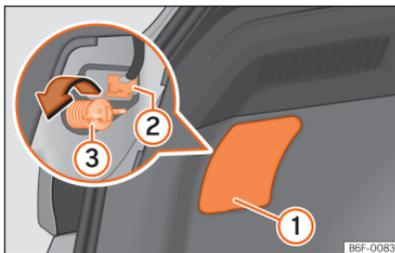
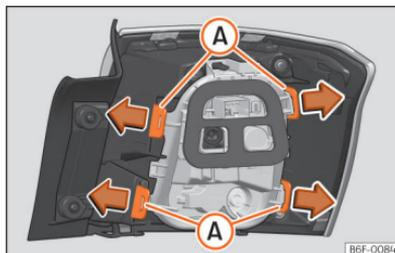

Fig. 171 Boot: access to the bolt securing the tail light unit.
Fig. 172 Retaining tabs on reverse side of tail light.
- Remove the lid, levering the flat side of a screwdriver into the recess >>> Fig. 171 ①.
- Remove the bulb connector ②.
- Unscrew the bolt securing the light ③ by hand or using a screwdriver.
- Remove the bulb holder unlocking the retaining tabs >>> Fig. 172 A.